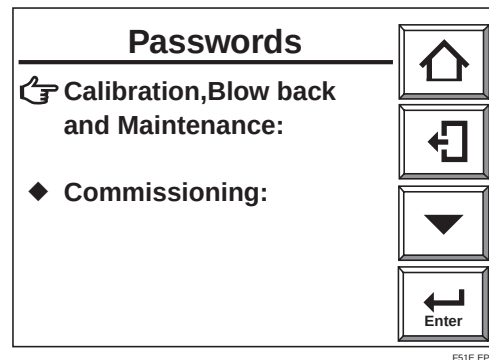

Fig. 8.23 Password Setting
- 3) Select [Others] then [Passwords]. The display shown in Fig. 8.23 appears.